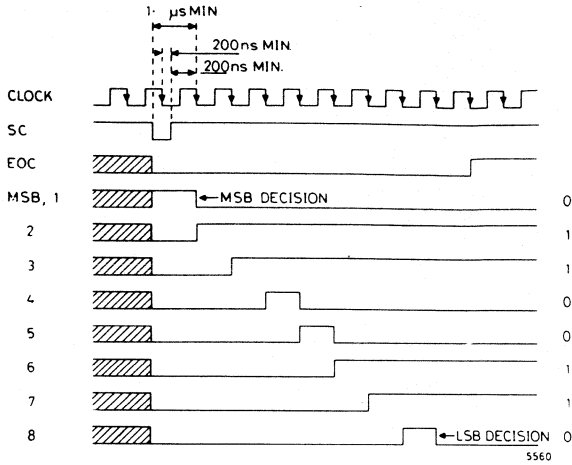

Fig. 2. ZN427 TIMING DIAGRAM
The conversion cycle is initiated by a negative going pulse applied to the START CONVERSION (SC) input, this sets the END OF CONVERSION (EOC) output to a logic '0' indicating that the converter is busy, see Fig. 2. On the ninth negative clock edge after the start pulse the EOC output goes back to a logic '1' signalling that the cycle is complete. The binary output data is latched until the next start pulse. The three-state data outputs are switched OFF (high impedance state) when the OUTPUT ENABLE (OE) input is at a logic '0' and they are enabled when the OE input is taken to a logic '1'.